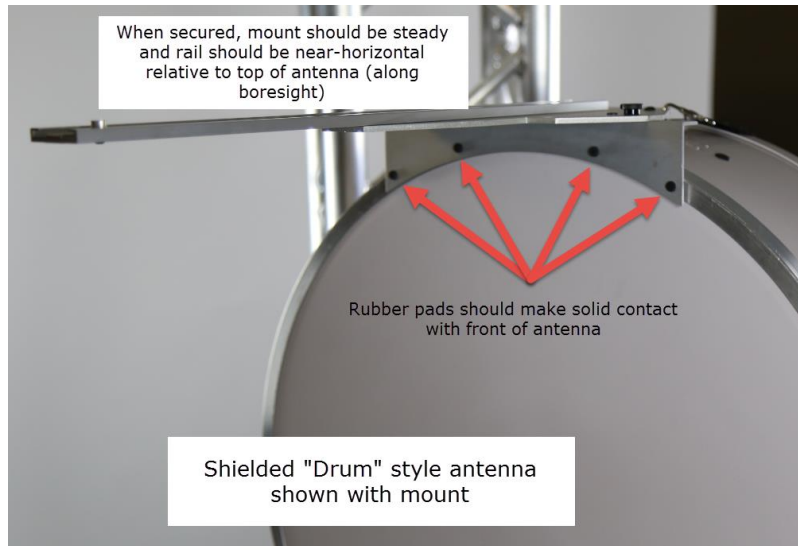
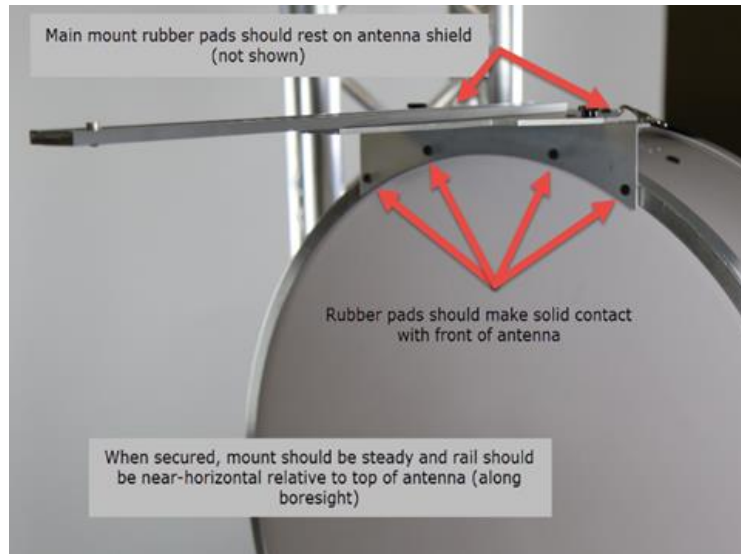

Figure 3
Figure 7
- 3) Ensure the mount is secured to the antenna, adjust the straps, and ensure the sliding rail is approximately level as it is extended in front of the antenna (not drooping or pointing to the sky). The mount should be very stable. See Figure 3, Figure 6 & Figure 7
- 6) Make sure mount is more or less horizontal in reference to the antenna. *See Figure 7*
- 5) Verify mount is more or less horizontal to the antenna. **See Figure 7, 8 & 10**
- 5) Verify mount is more or less horizontal to the antenna. *See Figure 7, 8 & 10*